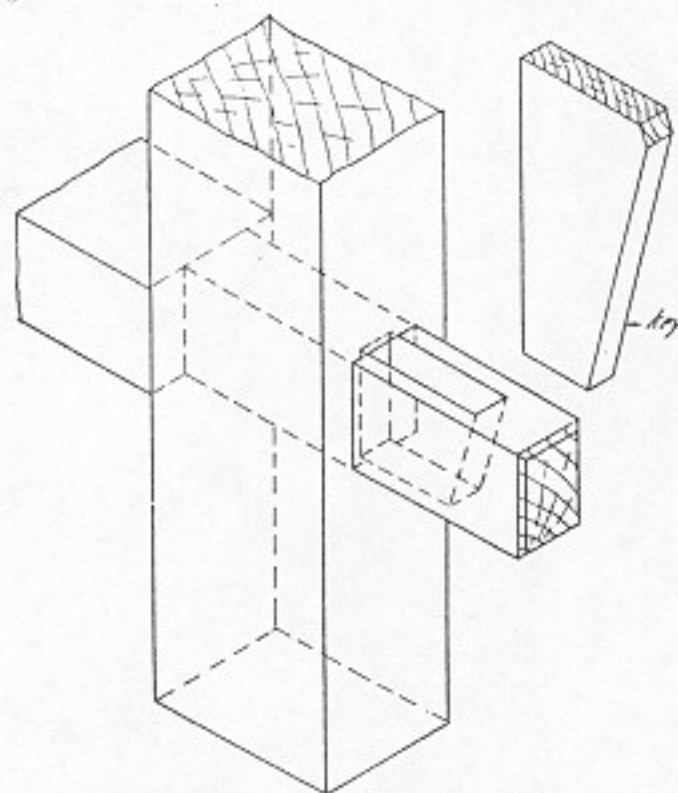

Fig. 260. Keyed mortise-and-tenon joint.
1. The joint is laid out and made as a through mortise-and-tenon joint, but the tenon is made at least twice as long as the thickness of the stock through which it projects (Fig. 260).